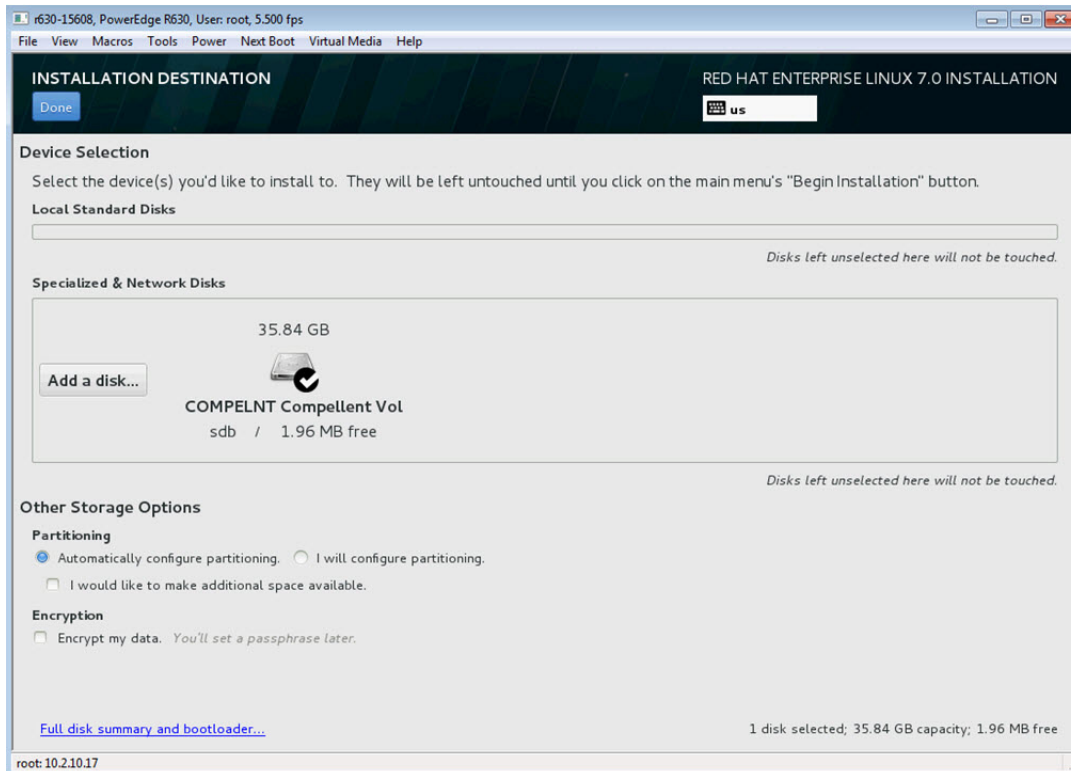

Figure 13-27. Selecting Partitioning Options
12. On the Installation Destination window (Figure 13-27) under **Other Storage Options**, select your **Partitioning** options, and then click **Done**.